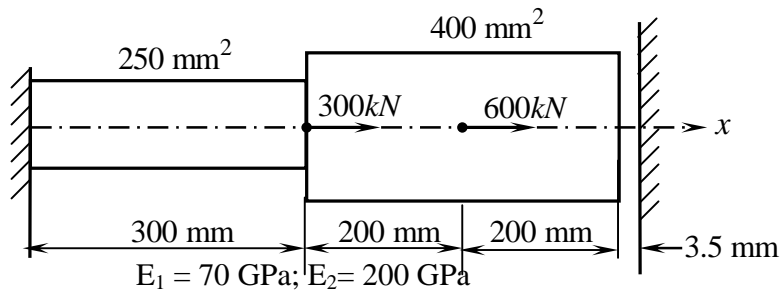

Fig. 1
- 15 For the stepped bar shown in Fig. 1, determine the nodal displacement, stresses and support reactions.